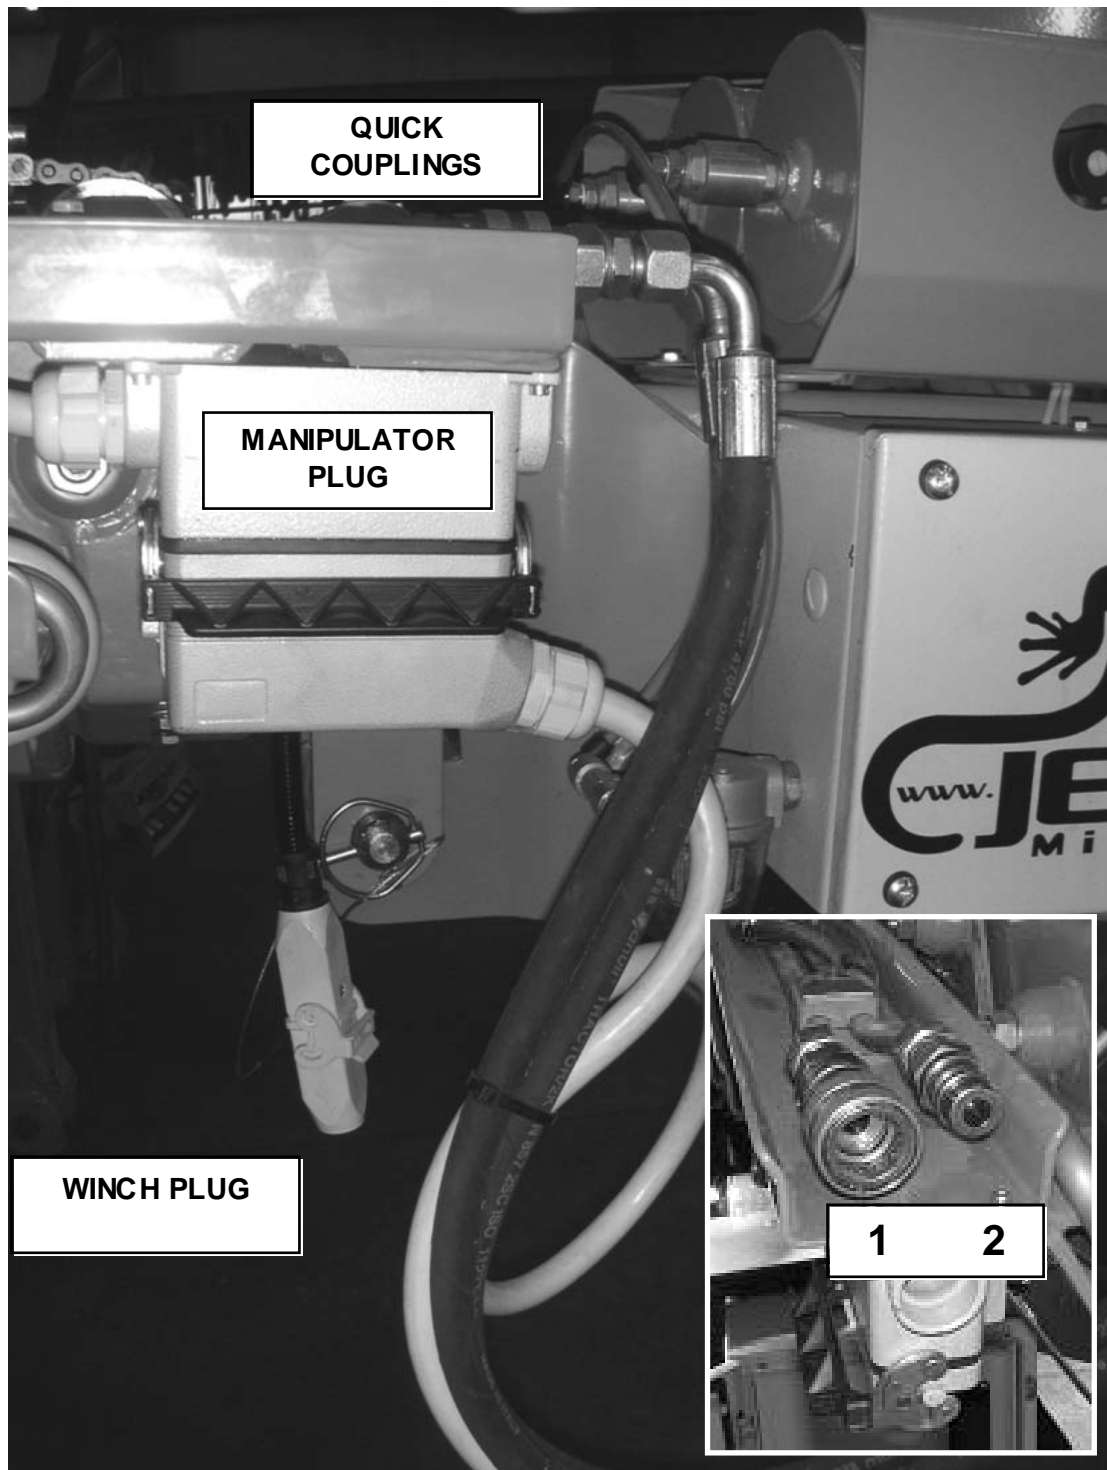

Fig. 3
- 6- Connect the quick couplings (line 1 first and then line 2) and the connector which are located on the boom tip (fig. 3)